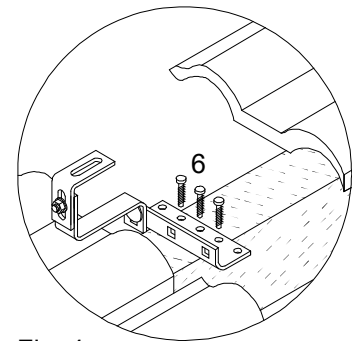

Fig. 4
2. With the 3 press cuts on the base line of the brackets (1) lateral displacements can be compensated if necessary (Fig.4).
3. The brackets of the roof hook (1) are adjusted to the height of the roof battens and/or tiles using the two square neck carriage bolts. The distance between the panels and the roof should be kept as small as possible. The brackets are fixed to the rafters using the frame screws (6) as illustrated in Fig. 4 and 5.